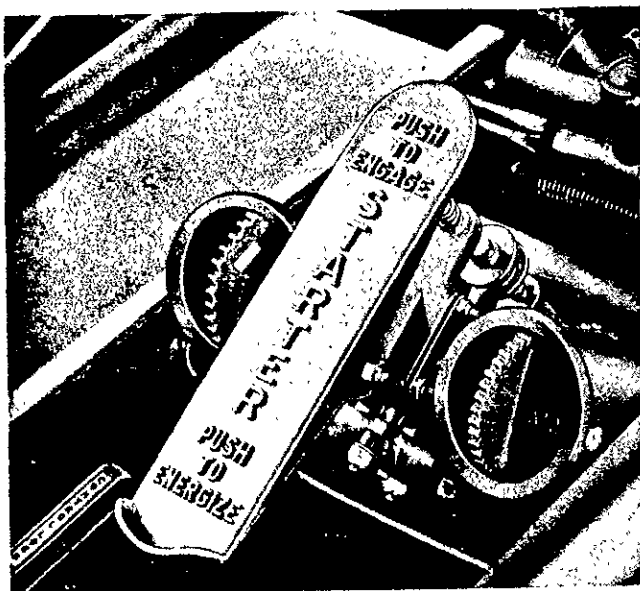

Figure 13 — Starter Switch Pedal
g. STARTER CONTROL. (See figure 13.)—A foot pedal for electrical control of the starter is mounted between the rudder pedals in the front cockpit. Pressure on the pedal energizes and engages the starter with the engine.